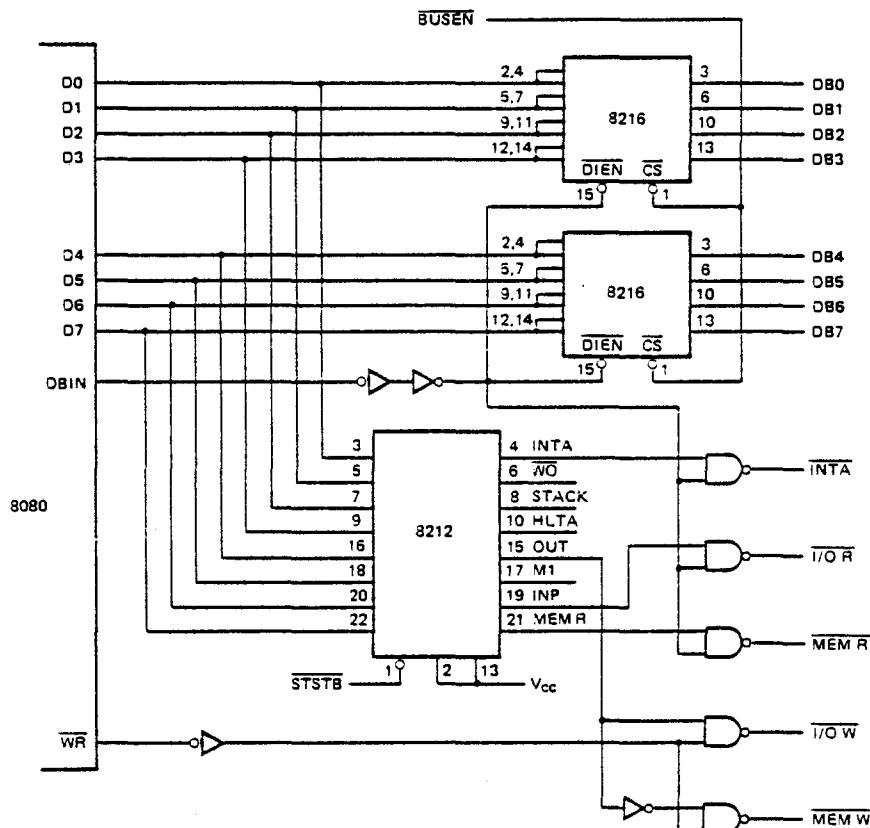

Figure 3-5. 8080 System Control
A pair of 8216's are connected directly to the 8080 Data Bus (D7-D0) as shown in figure 3-5. Note that the DBIN signal from the 8080 is connected to the direction control input (DIEN) so the correct flow of data on the bus is maintained. The chip select (CS) of the 8216 is connected to BUS ENABLE (BUSEN) to allow for DMA activities by deselecting the Data Bus Buffer and forcing the outputs of the 8216's into their high impedance (3-state) mode. This allows other devices to gain access to the data bus (DMA).
As described previously, the 8080 issues Status information at the beginning of each Machine Cycle on its Data Bus to indicate what operation will take place during that cycle. A simple (8) bit latch, like an INTEL® 8212, connected directly to the 8080 Data Bus (D7-D0) as shown in figure 3-5 will store the